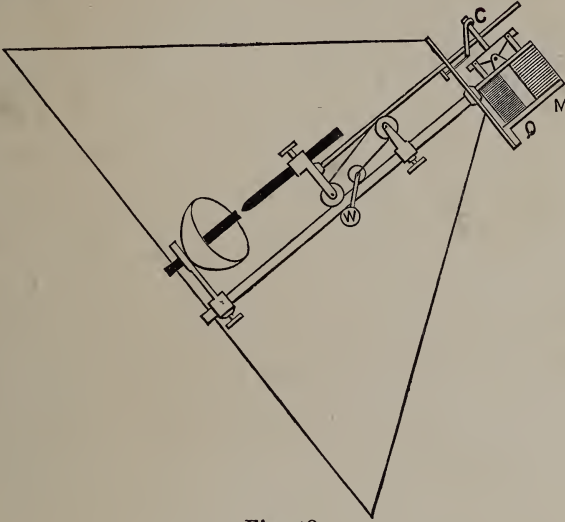

Fig. 48.
We may consider another design by the author for an Automatic Photo-Electric Lamp. It is another form of clutch lamp, Fig. 48.
In the mechanism of Fig. 48 only the upper carbon-holder is affected by gravity, and that is compensated by a sliding weight (W) working over a pulley by a cord.